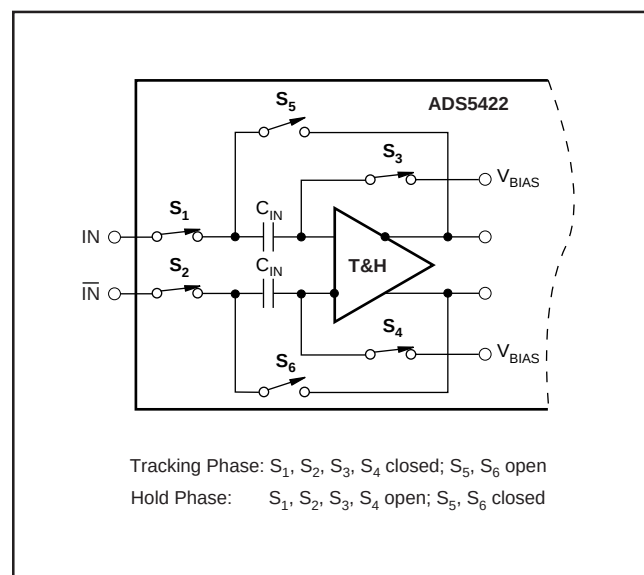
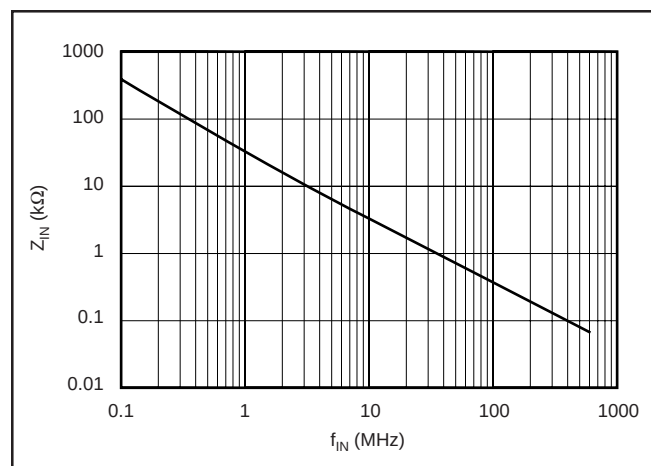

FIGURE 1. Simplified Circuit of Input Track-and-Hold Amplifier.
FIGURE 2. Differential Input Impedance vs Input Frequency.
The analog input of the ADS5422 consists of a differential track-and-hold circuit, as shown in Figure 1. The differential topology produces a high level of AC performance at high sampling rates. It also results in a very high usable input bandwidth—especially important for Intermediate Frequency (IF) or undersampling applications. Both inputs (IN , $\overline{IN}$) require external biasing up to a common-mode voltage that is typically at the mid-supply level ($+V_S/2$). This is because the on-resistance of the CMOS switches is lowest at this voltage, minimizing the effects of the signal-dependent,
The input of the ADS5422 is capacitive, and the driving source needs to provide the slew current to charge or discharge the input sampling capacitor while the track-and-hold amplifier is in track mode (see Figure 1). This effectively results in a dynamic input impedance that is a function of the sampling frequency. Figure 2 depicts the differential input impedance of the ADS5422 as a function of the input frequency.